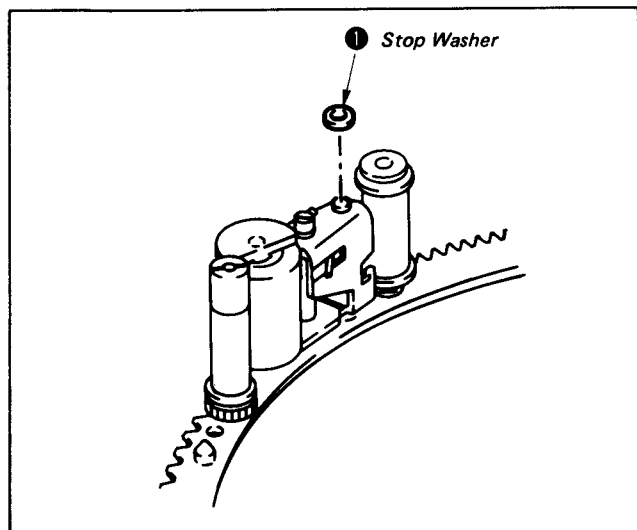

Fig. 8-15.
- 2) Remove the stop washer ①. (See Fig. 8-15.)